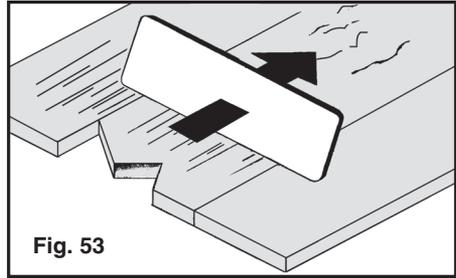

Fig. 53
5. Fill in remaining areas and smooth even with tops of existing pavement with Spreader (Fig. 53).